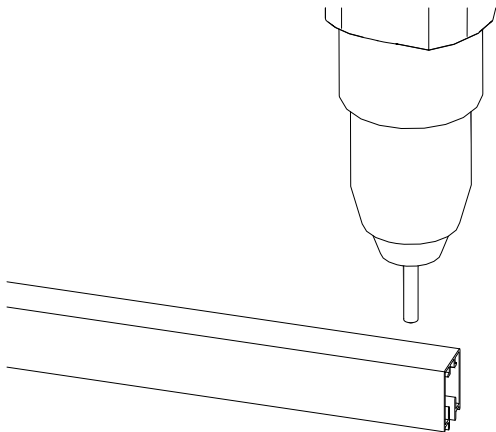

Fig. 24: Drill the hole for the notch in the insulating profile
- Drill the insulating profile (Ø 5 mm) (see Fig. 24).